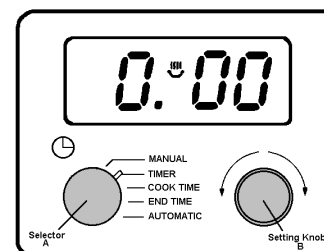

Fig.6
The minute minder will begin to count down once set. At the end of the timed period, the minute minder will sound for up to 30 seconds and the display will flash showing the time of day. See Fig. 6.
Turn setting knob (B), until the display shows 0.00. The cookpot (🍲) symbol will glow. Fig.6.